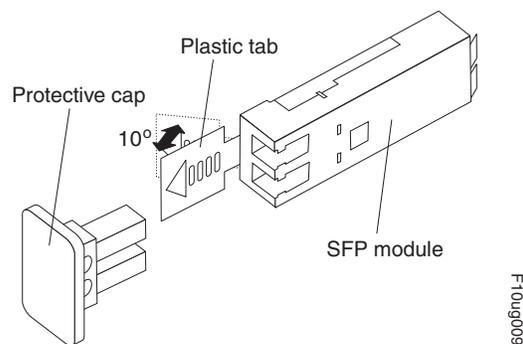

Figure 47. Unlocking the SFP module latch - plastic variety
- For SFP modules that contain plastic tabs, unlock the SFP module latch by pulling the plastic tab outward 10°, as shown in Figure 47.